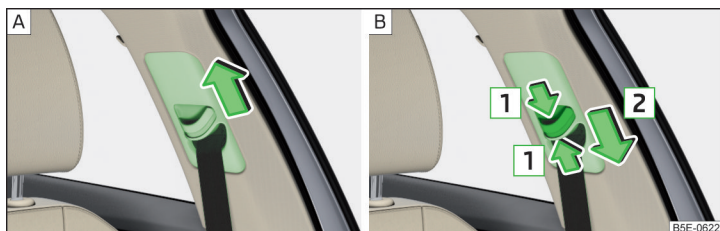

Fig. 6 Seat belt height adjusters for front seats
- Push the seat belt guide loop **upwards** in the direction of arrow » Fig. 6 - [A].
- Or: push together the mechanism in the direction of arrows **1** and push the return pulley **downwards** in the direction of arrow **2** » Fig. 6 - [B].